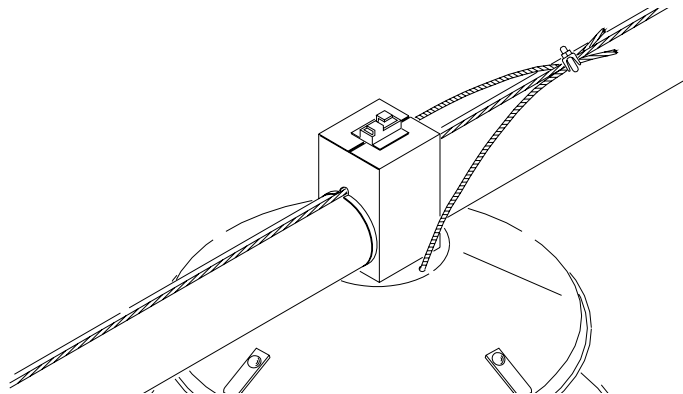

Figure 45. Cable Assembly Installation
8. Thread the cable assemblies through the holes on each side of the pan shield from the underside. Then clamp to the master cable with a cable clamp, **see figure 45**.